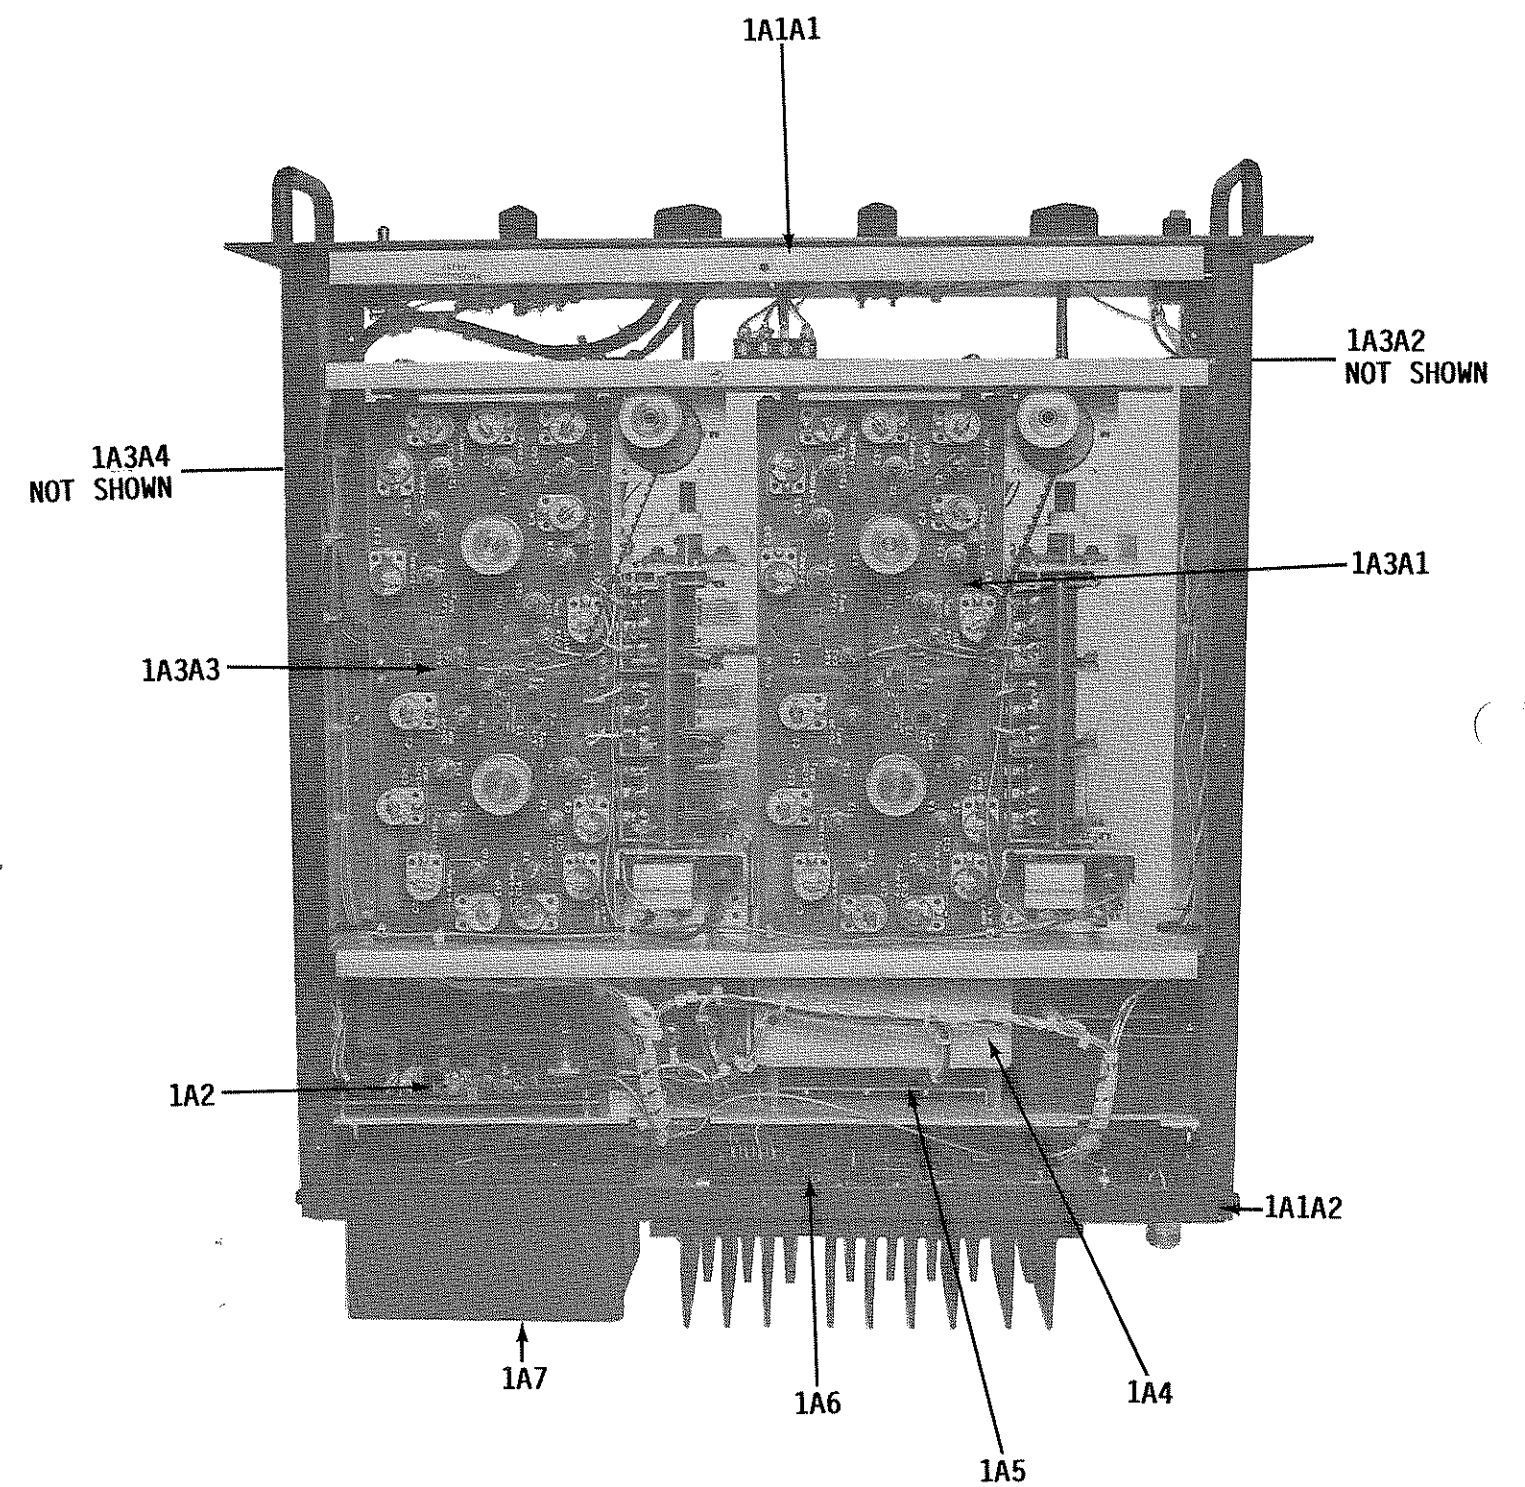

FIGURE 1.1 GSR-921 ASSEMBLY LOCATIONS
The GSR-921 is composed of seven major subassemblies: (1) Chassis 1A1, (2) Relay/ALC 1A2, (3) Preselector 1A3, (4) 12 VDC Power Supply 1A4, (5) 26 VDC Power Supply 1A5, (6) Power Amplifier 1A6, (7) Filter Module 1A7. See Figure 1.1 for major assembly locations.